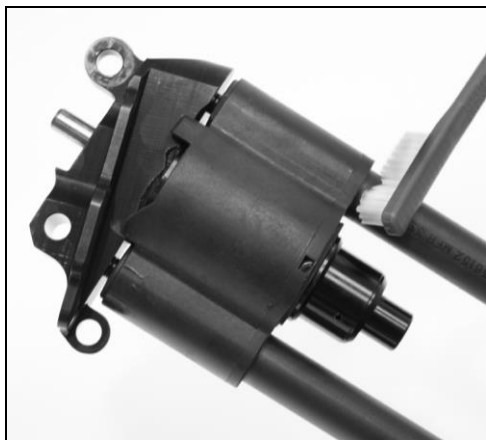

Figure 7
2. Use a plastic bristled brush and a military-grade cleaner/lubricant to remove dirt and debris from the frame rods. See Figure 7. Excess lubricant should be wiped away from moving parts as it may attract dirt and grit.